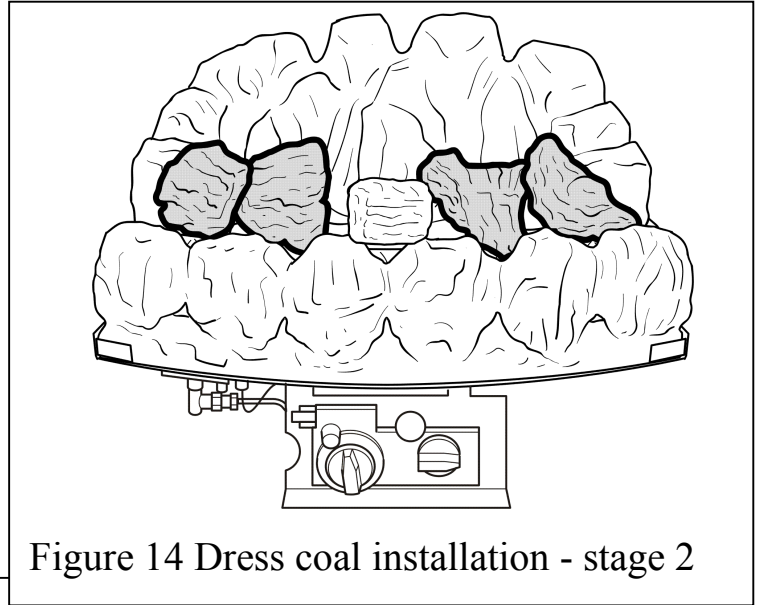

Figure 14 Dress coal installation - stage 2
3.2. Take four random coals and place along the front coal as shown in figure 14. Ensure that these coals bridge across from the front coal to the matrix.